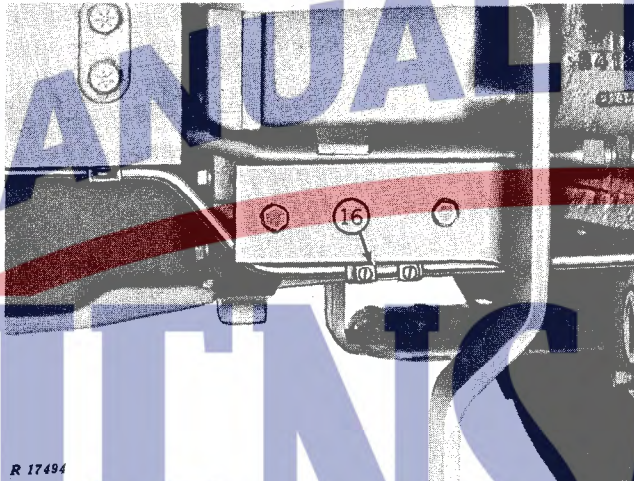

Fig. 6-Power Front-Wheel Drive Drain Pipe
14. Disconnect Power Front-Wheel Drive drain pipe (Fig. 6).